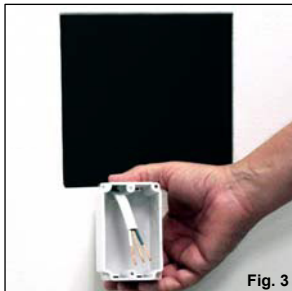

Fig. 3
- Fig. 3** Run the source of power, 14/2 w/ground, to the included workbox.